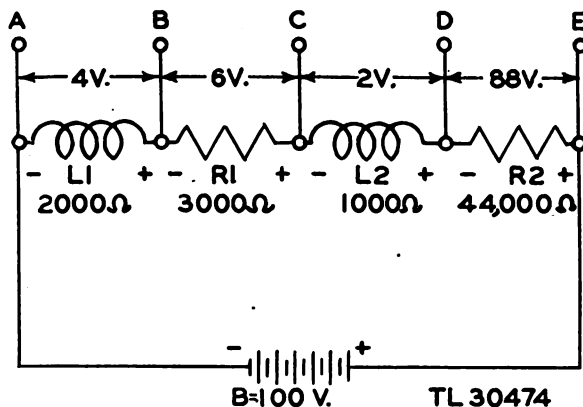

Figure 41. Voltage measurements functional schematic.
(3) Figure 41 shows another example of voltage drops in a series circuit. The total resistance in this circuit is:
Figure 41 shows the battery labeled plus (+) and minus (—), or positive (+) and negative (—).